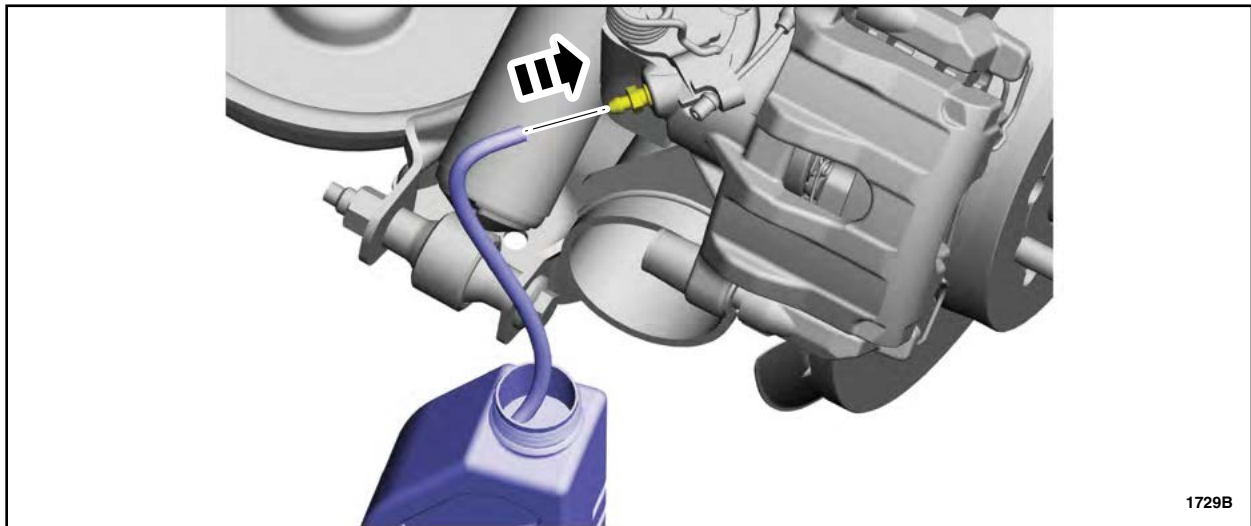

FIGURE 23
- Remove the brake caliper bleeder screw covers and attach fluid capture reservoirs to all four brake caliper bleeder screws. See Figure 23.